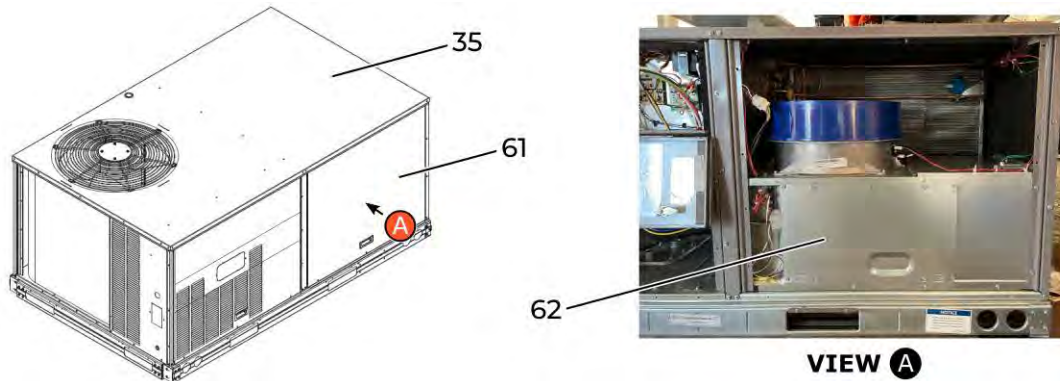

Figure 28 – Access to the HVAC's Heater
61. Reinstall the fan access panel (61) on the HVAC (35) (see **FIGURE 28**).